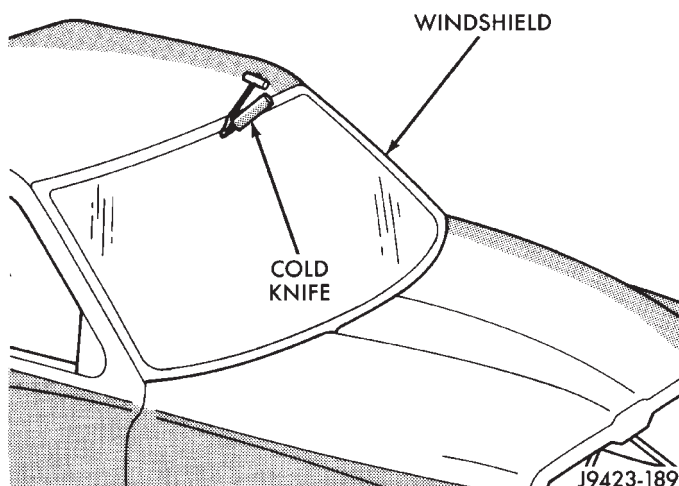

Fig. 1 Cutting Urethane Around Windshield—Typical
- (1) Cover body surface areas with protective covering to avoid paint damage and extra clean-up time.
- (2) Remove the windshield wiper arms and the rearview mirror.
- (3) Using a razor knife, slide the blade between the windshield glass and the inboard edge of the reveal molding.
- (4) Cut around the interior perimeter of the reveal molding and sever the cap of the reveal molding.
- (5) Using a cold knife, cut the urethane around the perimeter of the windshield (Fig. 1).